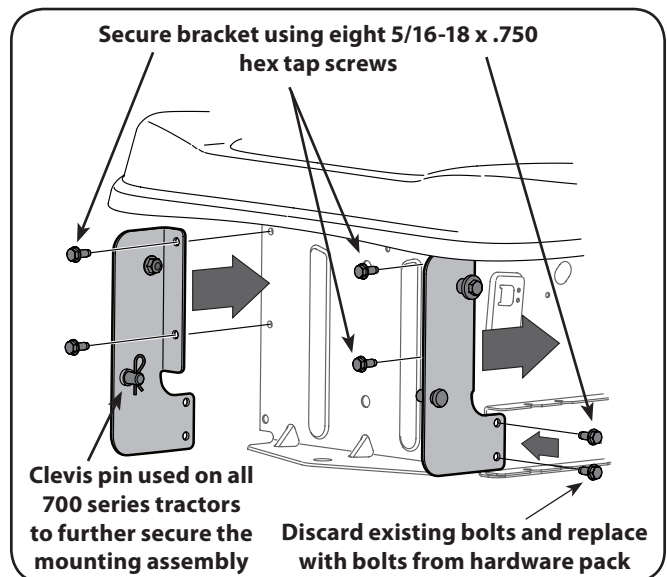

Figure 4-2
2. Remove and discard the two screws in the lower frame as seen in Fig. 4-2.
3. Mount the 700 series tractor mounting brackets to your tractor using eight self-tapping hex screws included with your kit by using the pre-drilled holes in your tractor's frame for the two top mounting bolts and the holes on the lower frame where you previously removed and discarded the screws. See Fig. 4-2.
4. When attaching the hitch bracket assembly to the tractor, secure with the clevis pin and clip pins called out in Fig. 4-2, in addition to the clevis pin used in the hitch plate on the following page.